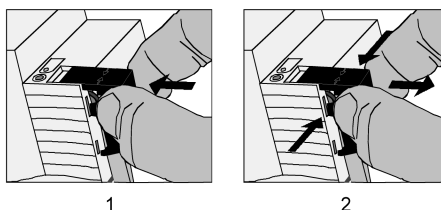

Figure 4: Installing / removing the protective cap for the bus connection
- To install the cap: slide the cap over the bus connecting terminal until you feel it engage (figure 4).
- To remove the cap: Remove the cap by pressing the sides slightly and by pulling it out to the front (figure 4).